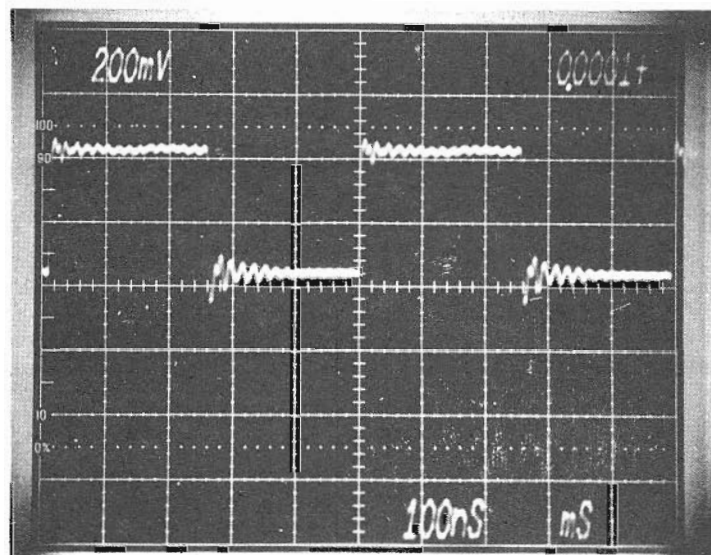

FIGURE 2 CORRECT VCO OUTPUT
4. With ac power ON and the diskette drive in an idle state (i.e., not reading or writing), adjust potentiometer R3 until the period of the displayed waveform approaches 500 nsec. At approximately 490 nsec or 510 nsec, the signal will actually jump to a period of 500 nsec. When the signal "locks up" at 500 nsec, the VCO is adjusted properly (ref: FIGURE 2).